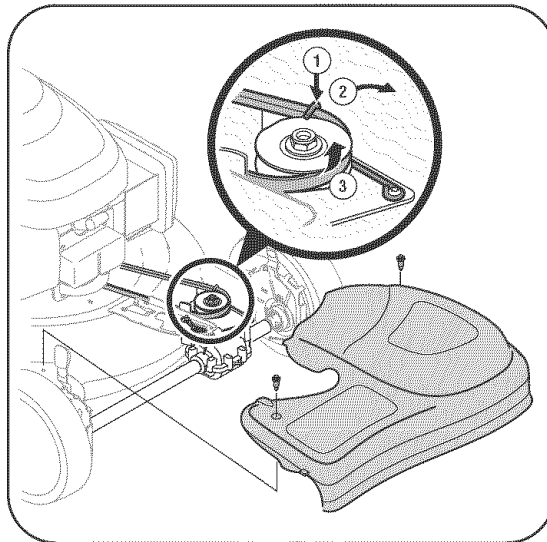

Figure 6
1. Remove two shoulder screws securing front drive cover to mower deck. See Figure 6. Press inward on sides of front drive cover and release tabs that secure it to the height adjuster brackets. Remove drive cover from mower.
2. Pull up on the belt keeper wire and pivot it out away from the drive pulley. See Figure 6 inset.